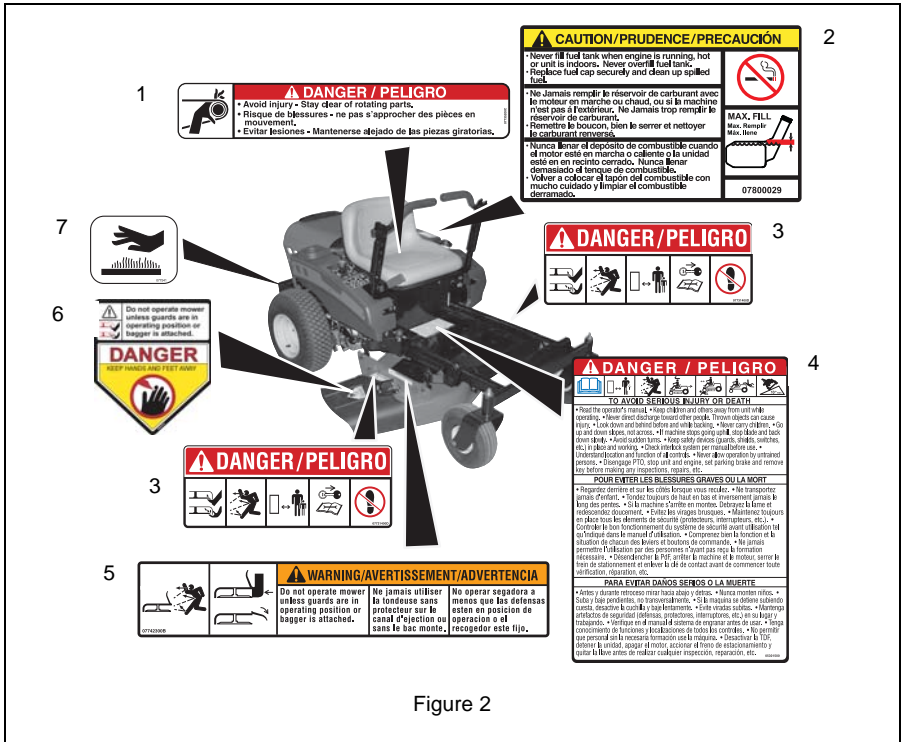

Figure 2
**ALWAYS** replace missing or damaged Safety Decals. Refer to figure 2 for Safety Decal locations.